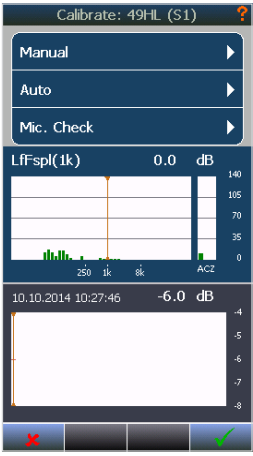

Figure 8.1
- 2 **Enter calibration mode.** Press the **CAL** key to gain access to the *Calibration* menu (Figure 8.1). Nor150 offers two different ways to perform an acoustical calibration, *Manual* or *Auto*. The third option *Mic. Check* is an electrical verification of outdoor microphones.